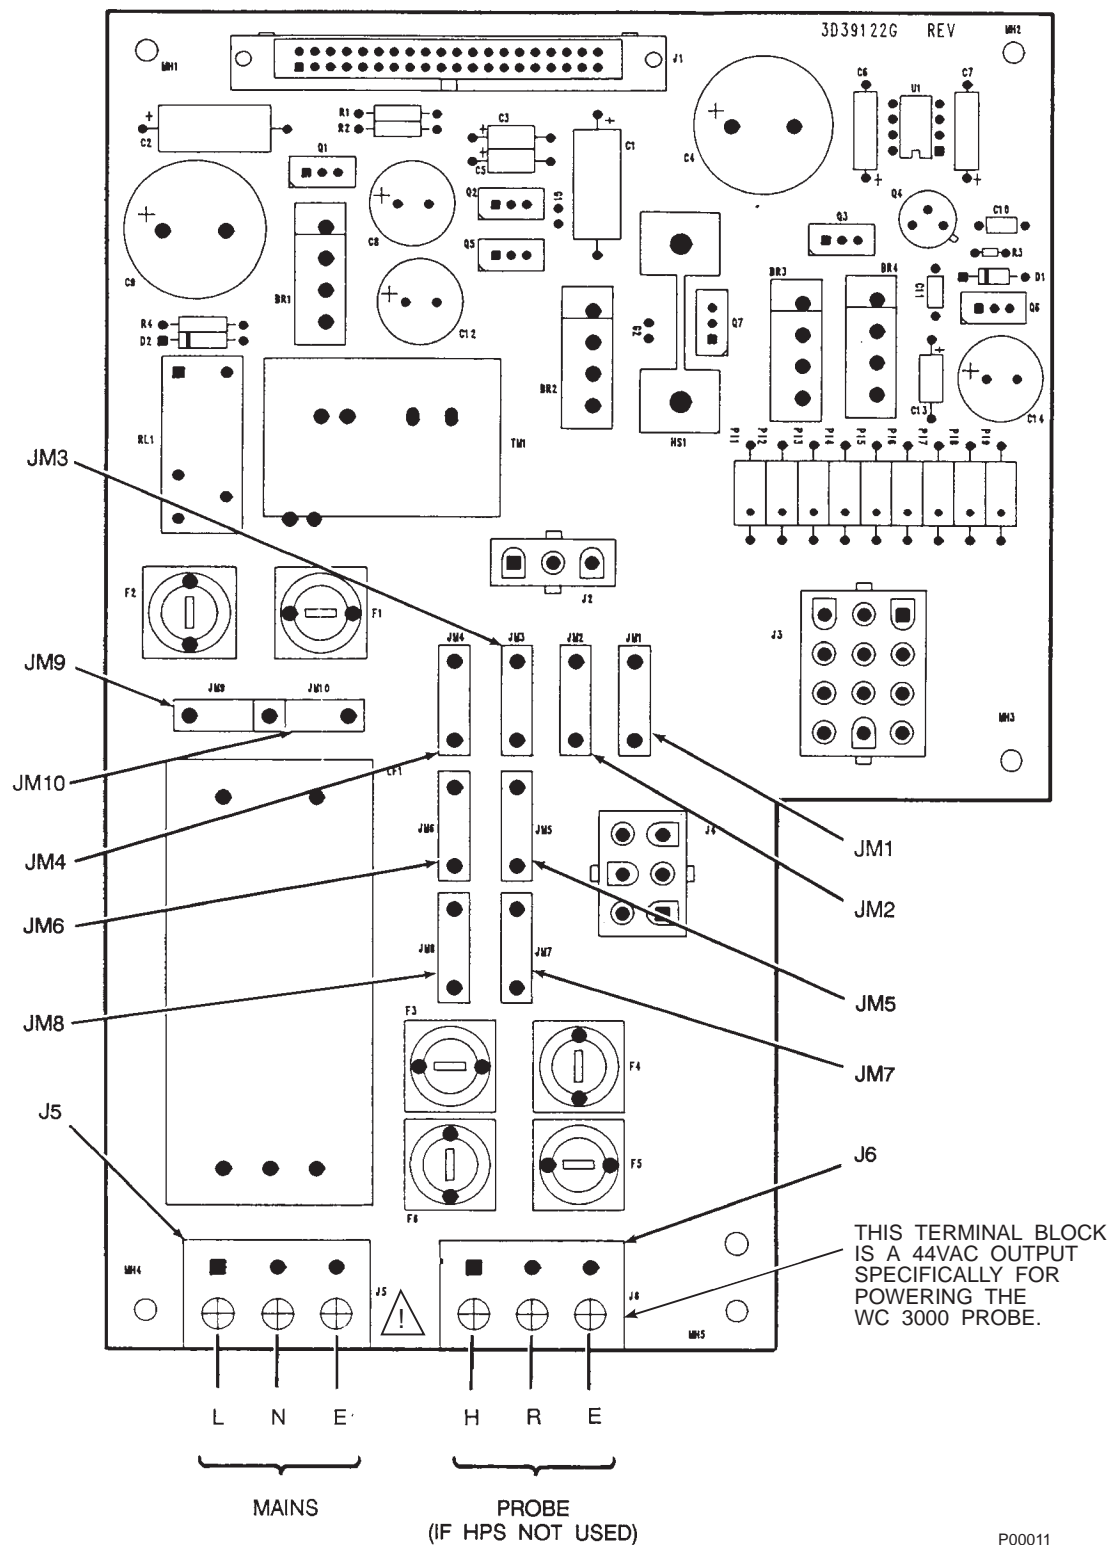

Figure 2-6. IFT Power Supply Board Jumpers
- Terminal strip J5 on the power supply board is used for supplying the IFT with power. Terminal strip J6 on the power supply board is used to supply the probe heater with power if an HPS is not used (Figure 2-6).